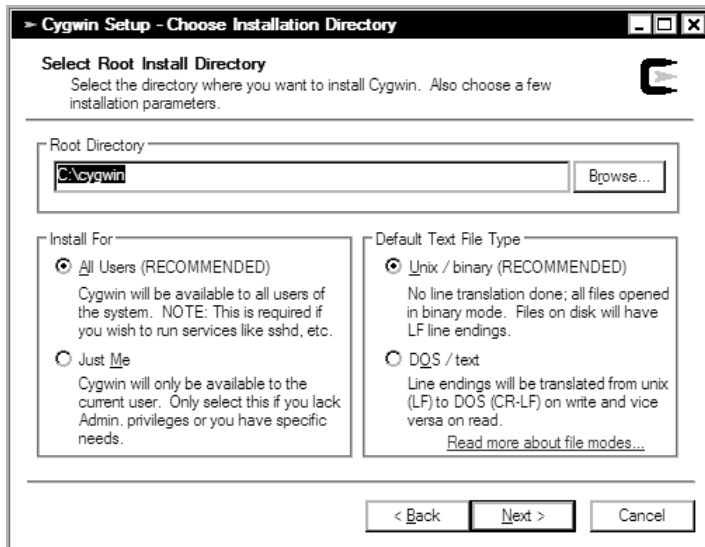

Figure 2-8. Cygwin installation: selecting an installation directory
12. You're asked where to install Cygwin (see Figure 2-8). This is the root of the Cygwin installation: all the files are installed under this directory, and when Cygwin is run, this directory maps to the root file system. I talk more about what that means in the section "Cygwin's View of the File System." The default, under most circumstances, is correct.